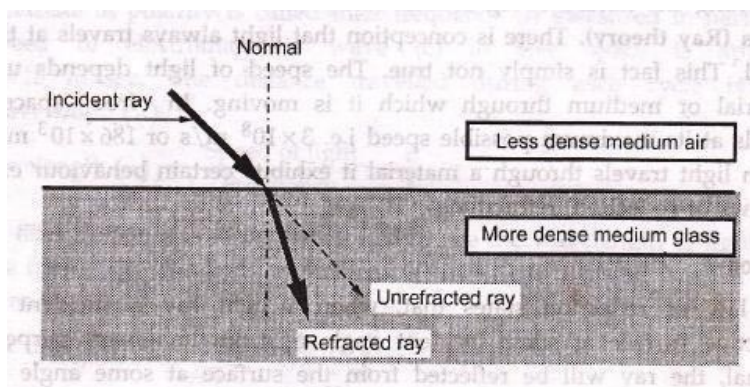

Fig.1.6.3
- When wave passes through less dense medium to more dense medium, the wave is refracted (bent) towards the normal. Fig. 1.6.3 shows the refraction phenomena. □